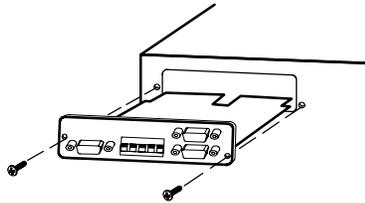

Figure 3. Removing the Modbus Card
2. Remove the card from the slot. Retain the screws (see Figure 3).